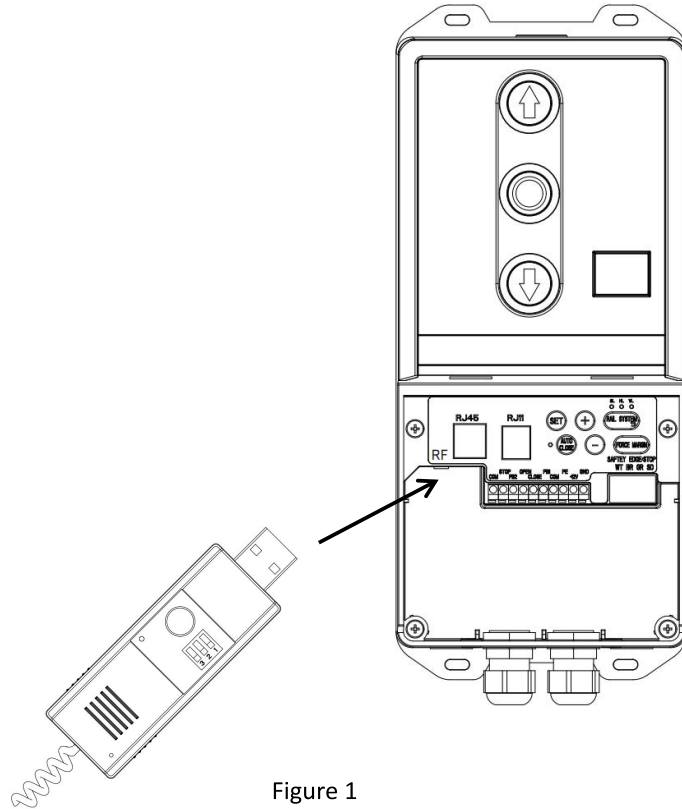

Figure 1
1.If the customer uses the control box for operation, please follow the Figure 1 for installation
2.If the customer uses the digital display for operation, please follow the Figure 1 for installation